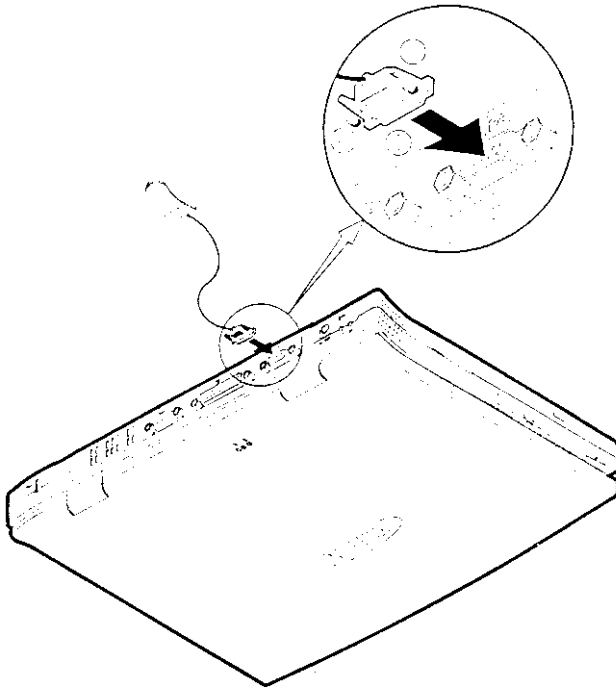

Figure 2-22
2. Connect the cable to the serial port on the rear of the Notebook Computer (Step 1 in Figure 2-22).
3. Tighten the screws that fasten the cable to the serial port (Step 2 in Figure 2-22).